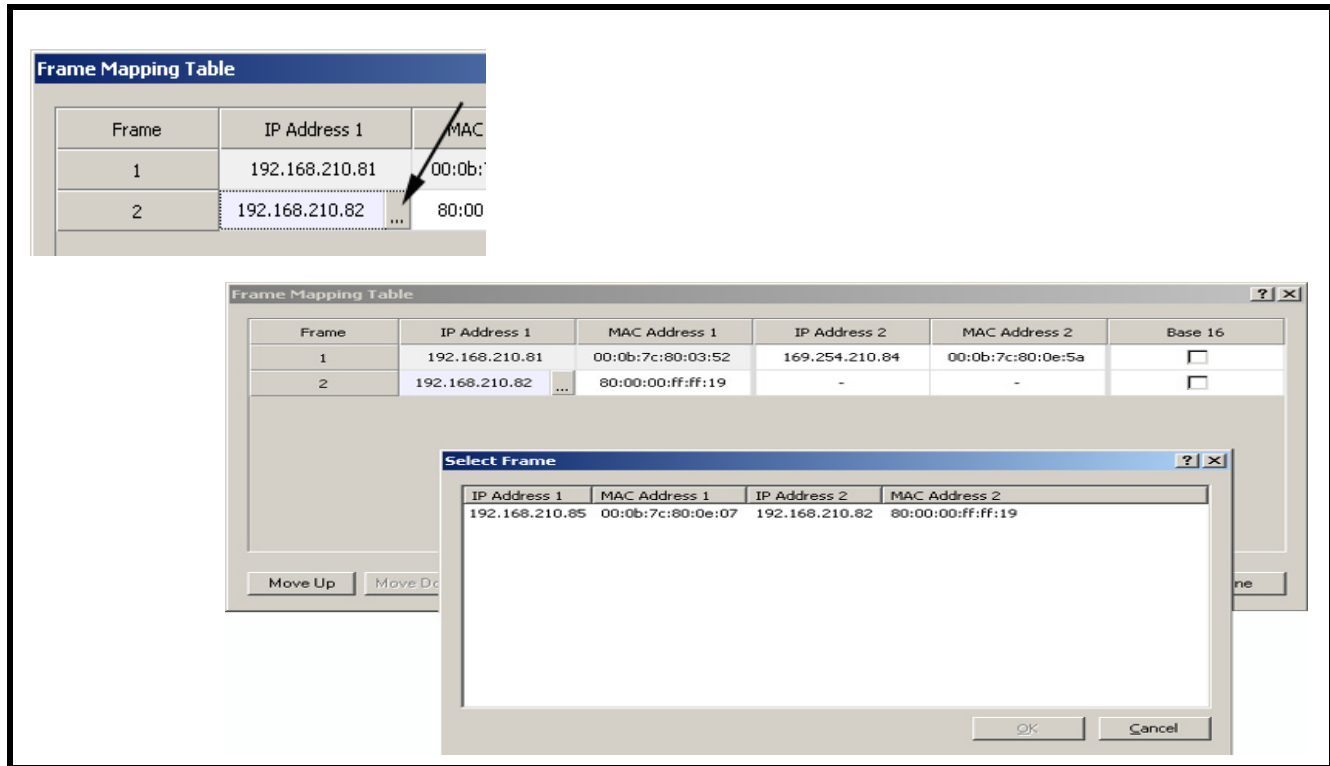

FIGURE 43. Frame Mapping Table Browse Button which opens the Select Frame window.
1. Click the **Address** to make the field active and the Browse button appear (see Figure 43).